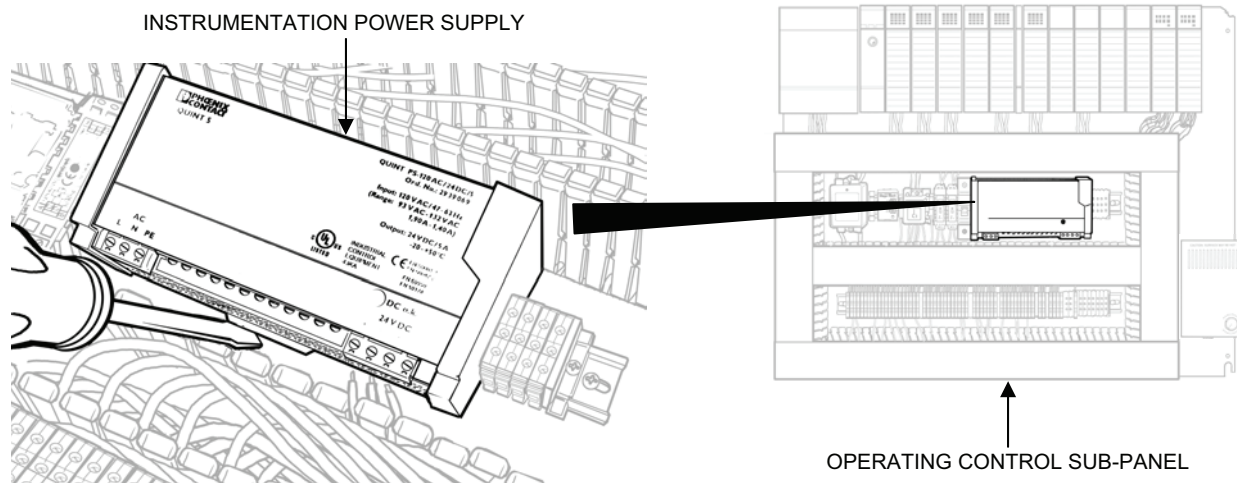

Figure 16. Instrumentation Power Supply Removal.
3. Remove the instrumentation power supply as follows (see Figure 16):